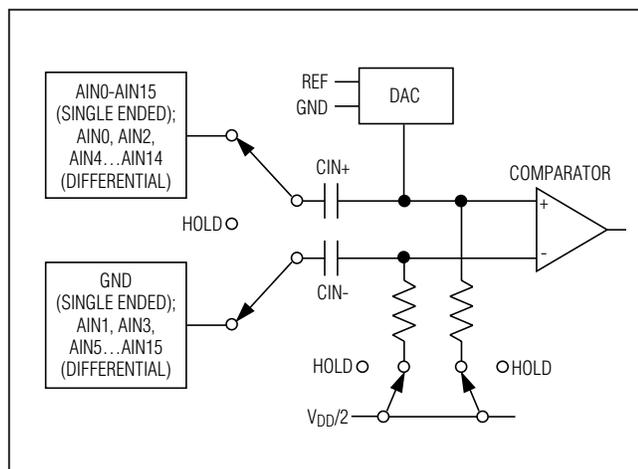

Figure 3. Equivalent Input Circuit
**Note 6:** See Figure 3 (Input Equivalent Circuit) and the *Sampling Error vs. Source Impedance* curve in the *Typical Operating Characteristics* section.
The MAX1026/MAX1028/MAX1030 use a fully differential ADC for all conversions. The analog inputs can be configured for either differential or single-ended conversions by writing to the setup register (see Table 3). Single-ended conversions are internally referenced to GND (see Figure 3).
The equivalent circuit of Figure 3 shows the MAX1026/MAX1028/MAX1030s' input architecture. In track mode, a positive input capacitor is connected to AIN0–AIN15 in single-ended mode (and AIN0, AIN2, AIN4...AIN14 in differential mode). A negative input capacitor is connected to GND in single-ended mode (or AIN1, AIN3, AIN5...AIN15 in differential mode). For external track-and-hold timing, use clock mode 01. After the T/H enters hold mode, the difference between the sampled positive and negative input voltages is converted. The time required for the T/H to acquire an input signal is determined by how quickly its input capacitance is charged. If the input signal's source impedance is high, the required acquisition time lengthens. The acquisition time,  $t_{ACQ}$ , is the maximum time